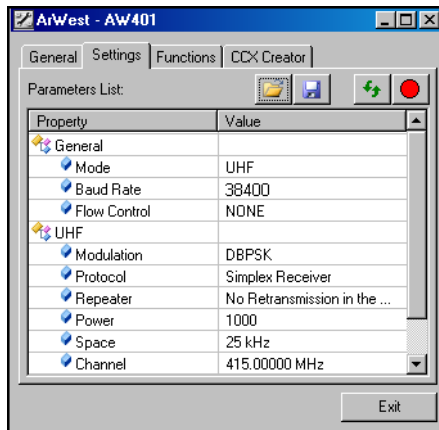

Figure 3-7. UHF Modem Settings
- Click on the **Settings** tab to open a list of settings of the modem (see Figure 3-7 on page 3-6). The settings list varies depending on the modem model and possibly the firmware version. The settings can be read-only (marked by the ) or changeable (marked by the ) icon).